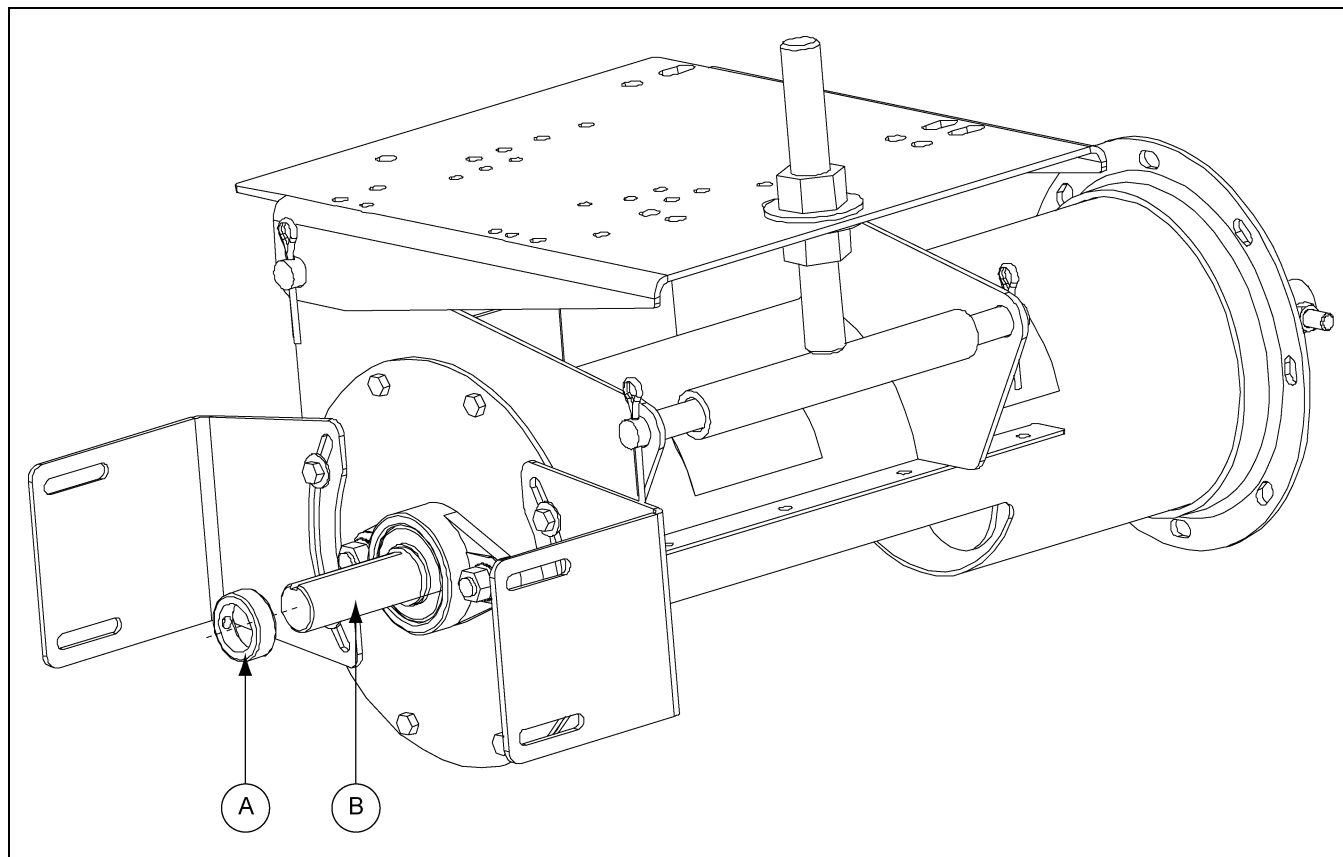

Figure 4H
1. Slide the lock collar (A) over the drive shaft (B), positioning it against the bearing. Do not tighten the lock collar at this time as it will be tightened later in the assembly. *(See Figure 4H.)*